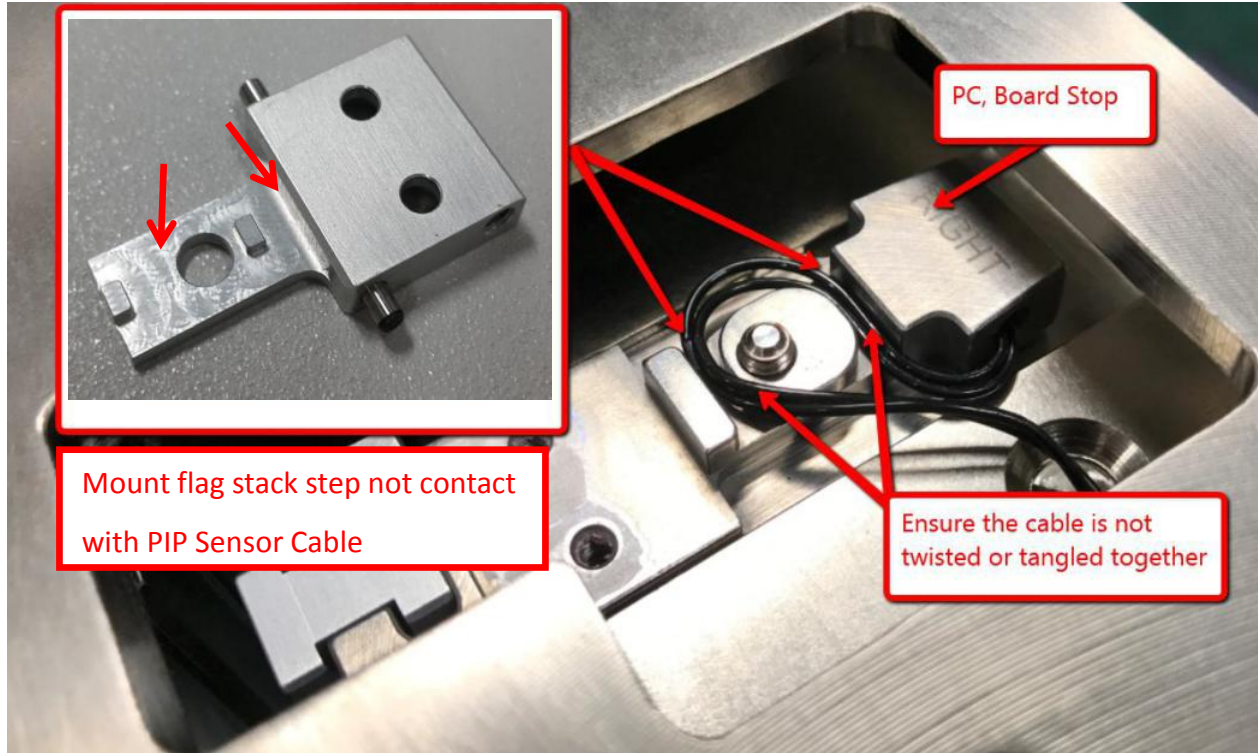

Figure 13 Flag Mount Installation
7. Assemble mount flag on the PC, Board Stop as Figure 13 by refer to below criteria.
11. Go to Services-> Confirmation, Diagnostics & Adjustment and run Panel Handling Confirmation for 5 loops as Figure 13